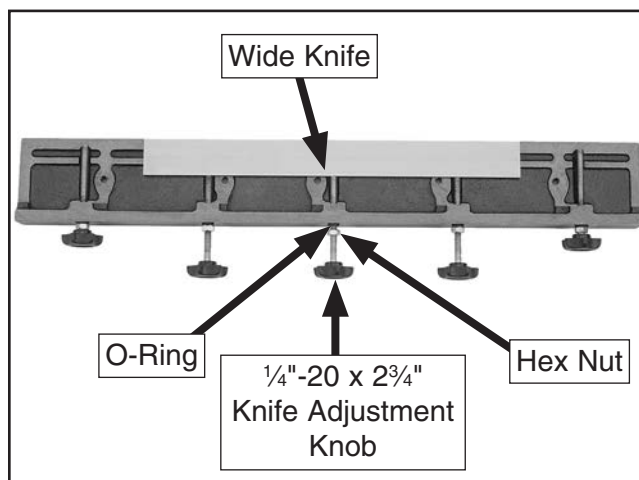

Figure 19. Wide knife placed on the slide bar even with the front edge.
6. Install (5) $\frac{1}{4}$ "-20 x $2\frac{3}{4}$ " knife adjustment knobs on the slide bar, each with (1) O-ring and (1) $\frac{1}{4}$ "-20 hex nut. Then back the adjustment knobs out enough so that the knife can be positioned in the middle of the slide bar and even with its front edge, as shown in **Figure 19**.